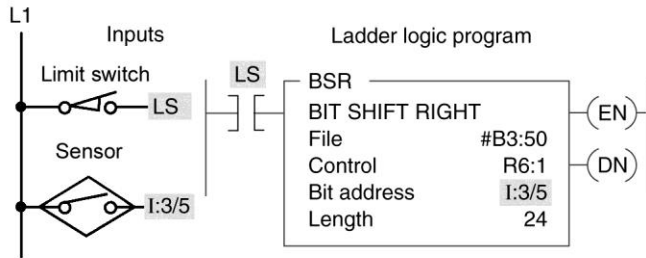

Figure 12-28 Bit shift right (BSR) program for assignment 11.
11) The bit shift right (BSR) program of Figure 12-28 is described in the text. Prepare an I/O connection diagram and ladder logic program that will simulate its operation. Use addresses that apply to your PLC installation. Enter the program into the PLC, and verify its operation.